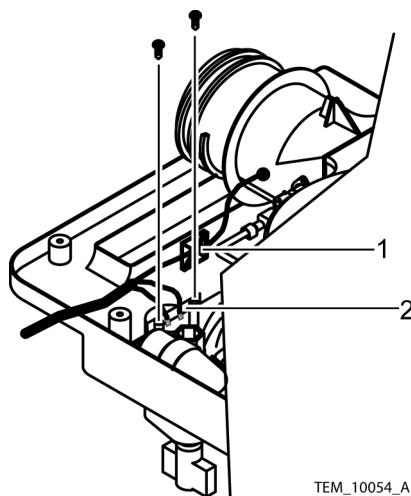

Figure 5-62. Thermistor Cable Installation
36. Attach the cable tie around the thermistor cable. See Figure 5-62, item 1.
37. Install the thermistor cable terminal board. Tighten the screw to 4 to 6 in/lbs (10 to 15 cm/kg). See Figure 5-62, item 2.